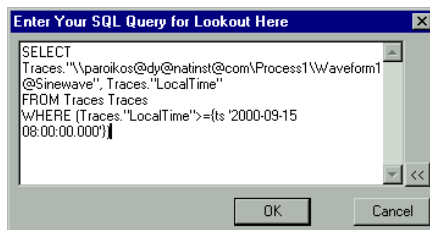

Figure 6. SQL Query
- In Lookout run mode, click the TextEntry object, click the » button to make the edit box multi-line, and paste the SQL statement into the box, as shown in Figure 6. Click **OK**.